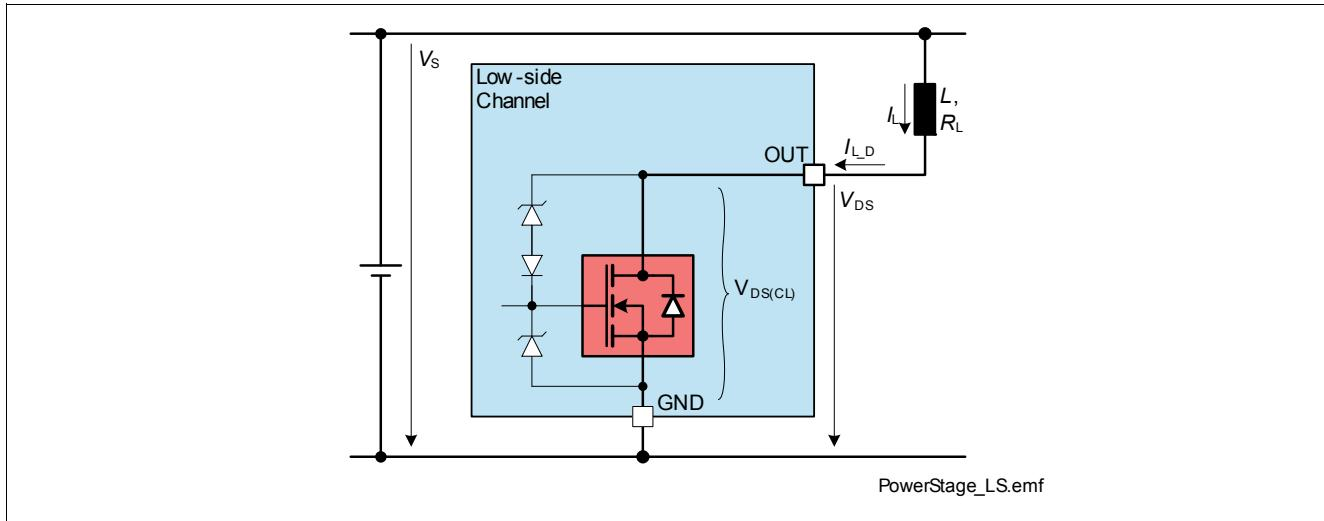

Figure 16 Output Clamp concept
**Figure 16** shows a concept drawing of the implementation. Nevertheless, the maximum allowed load inductance is limited. The clamping structure protects the device in all operative modes (Sleep, Idle, Active, Limp Home).